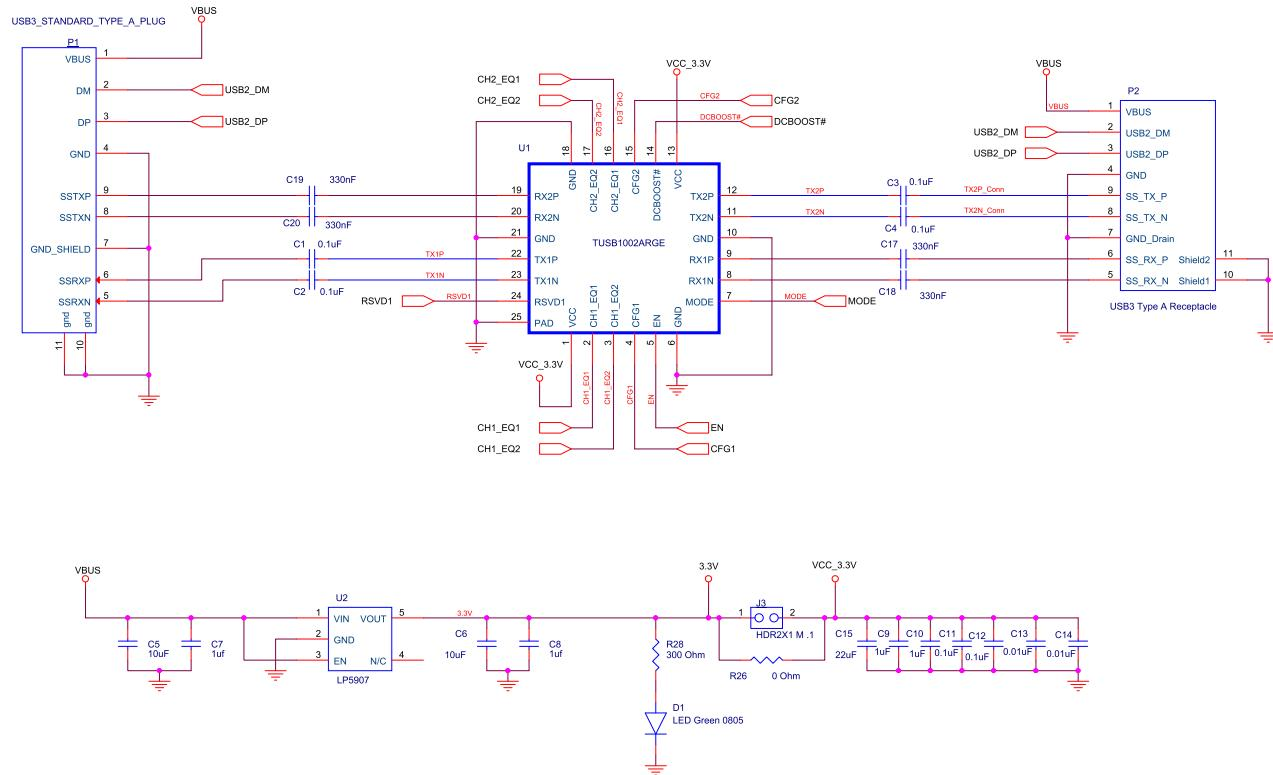
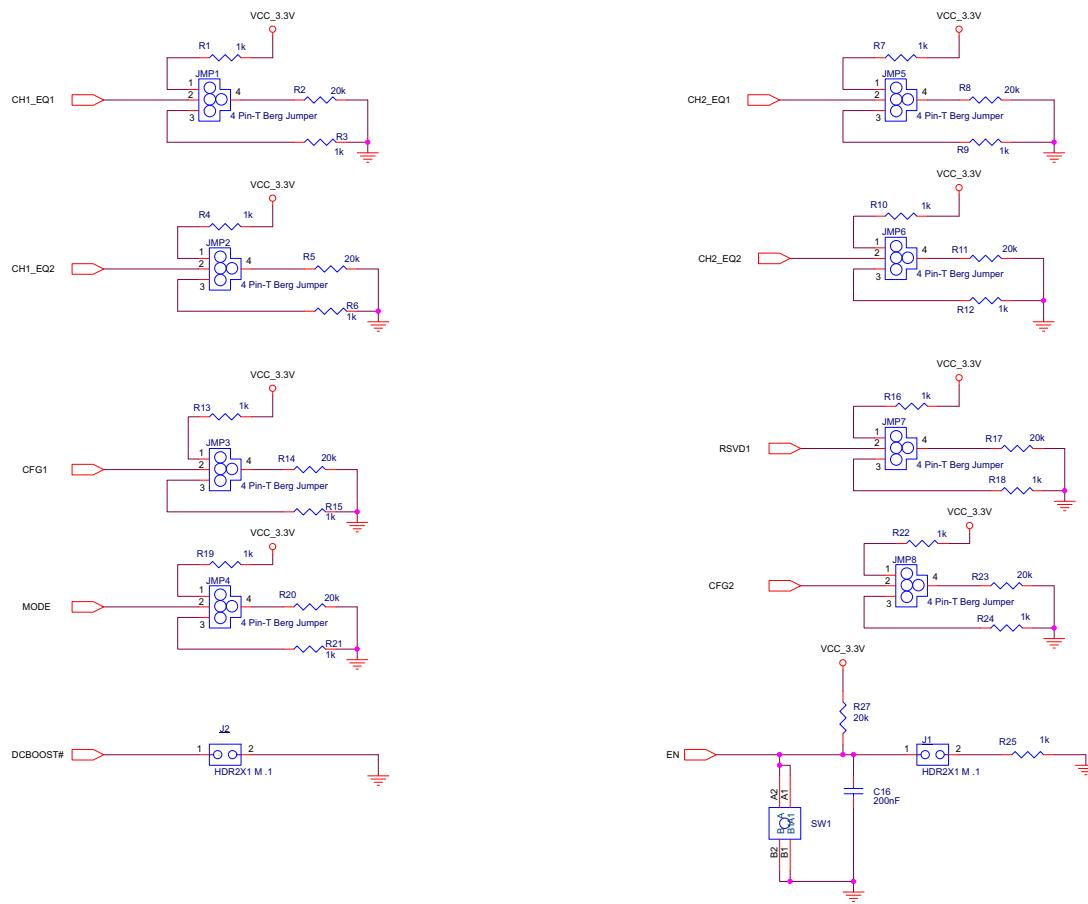

Figure 3. TUSB1002A EVM Schematic (High Speed Pins / Power)
Figure 4. TUSB1002A EVM Schematic (Device Control Pins)
Figure 3 and Figure 4 illustrate the EVM schematics
- Changed Figure 3 and Figure 4 5